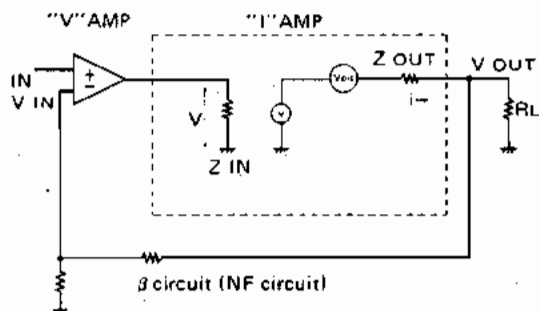

Fig. 1-41
For convenience, the main amplifier was divided into two sections: the "V" AMP section for amplifying voltage, and the "I" AMP section for amplifying current. For explanation, circuit equivalent to the "I" AMP is shown in Fig. 1-41. Thanks to the improvements in the characteristics of component parts and to circuit technology, it is now possible to design a "V" AMP having quite good characteristics. However, still to be overcome is the problem of nonlinear distortion of component parts due to switching and crossover distortions and the circuit's wide operating range.
1) How the circuit in Fig. 1-41 operates